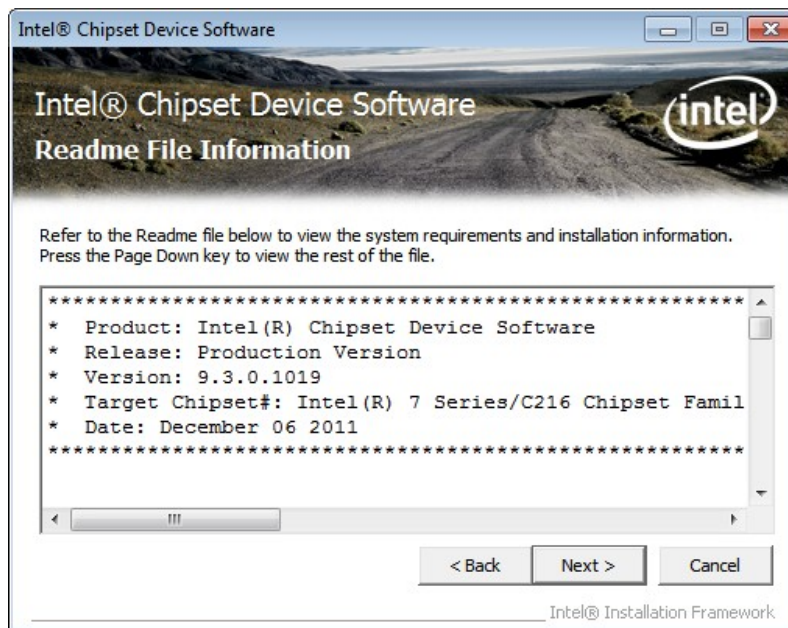

Figure 6-5: Chipset Driver Read Me File
Step 8: The Read Me file in Figure 6-5 appears.